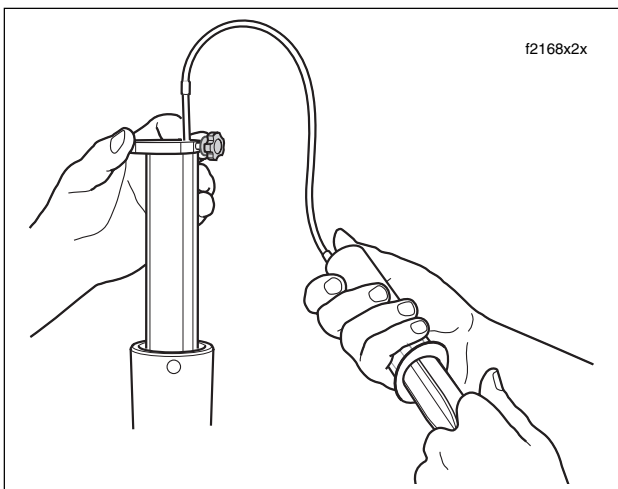

Figure 2-82. Remove Excess Fork Oil
- d. Insert rod into top of fork tube until metal ring rests flat on top of fork tube. See Figure 2-82.